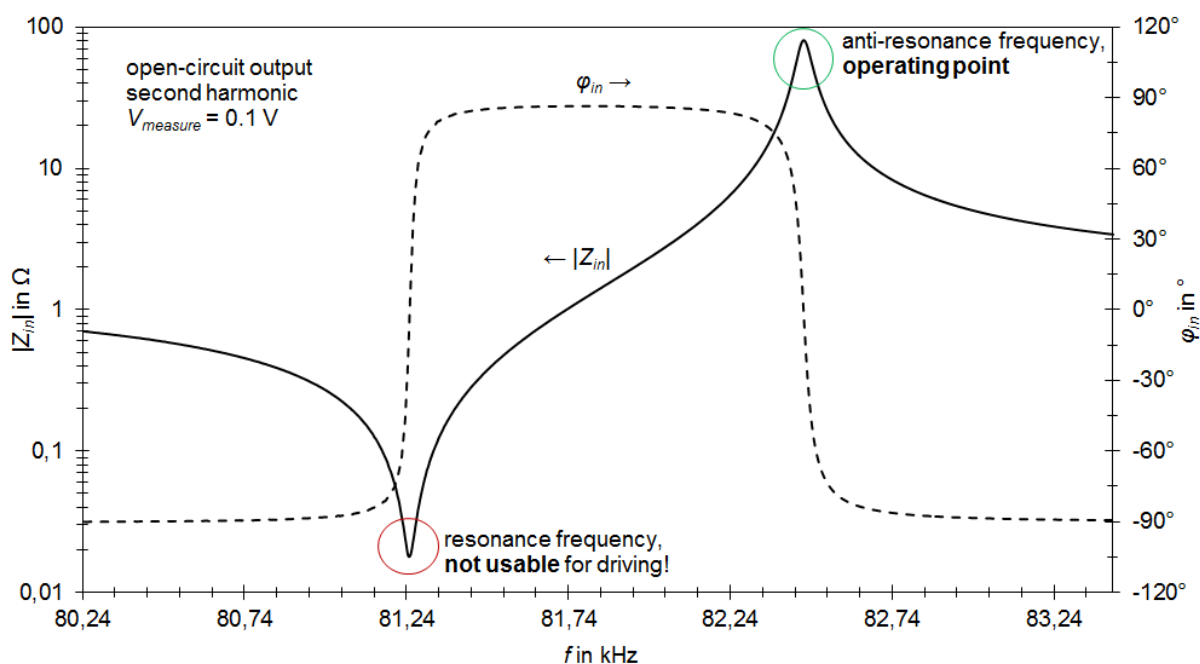

Fig. 2. Typical input impedance around 2nd harmonic at open-circuit output ($V_{in} = 0.1 V$, no plasma).
The CeraPlas™ HF has its first resonance around 41 kHz. It is designed to be driven at its 2nd harmonic around 82 kHz, shown in detail in Fig. 2.
1. Input power approximately < 1.5 W: As shown in Fig. 2 the CeraPlas™ HF has to be driven at anti-resonance frequency, hence maximum impedance, corresponding to 0°.